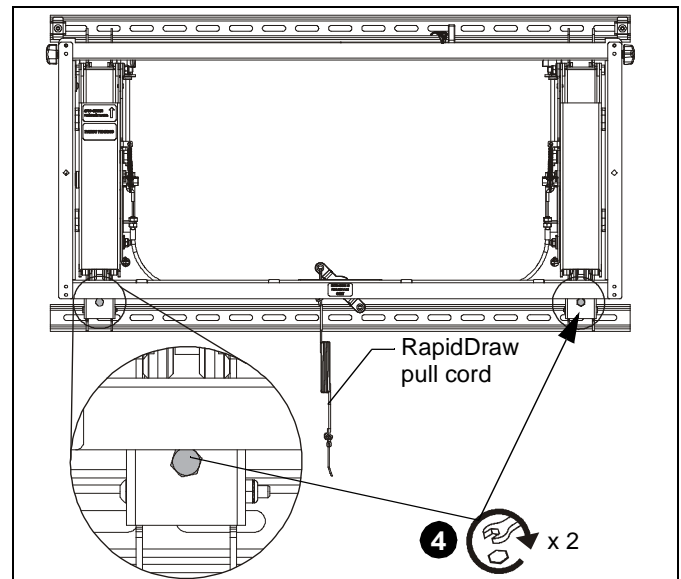

Figure 9
4. Tighten two hex head fasteners at bottom of each mount. (See Figure 9)
6. Extend RapidDraw pull cord to bottom row of displays so that it is accessible, re-tie to correct length and label the pull cord using label (Y) so that it is identifiable. (See Figure 9)